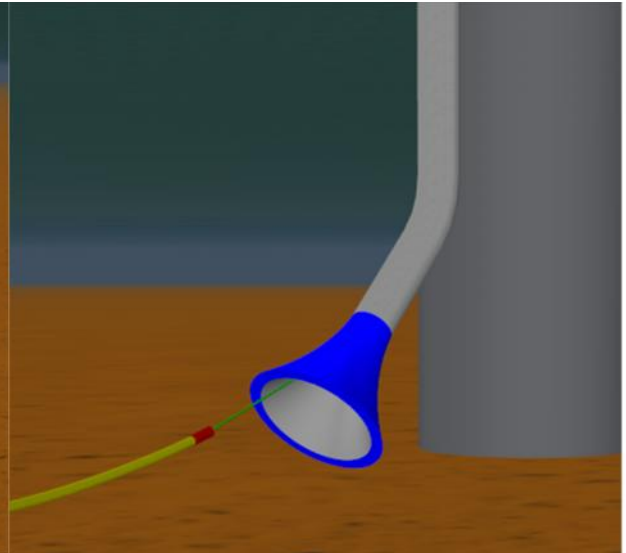

Figure 2-2: Bellmouth Model
- J Bellmouths (see Figure 2-2).